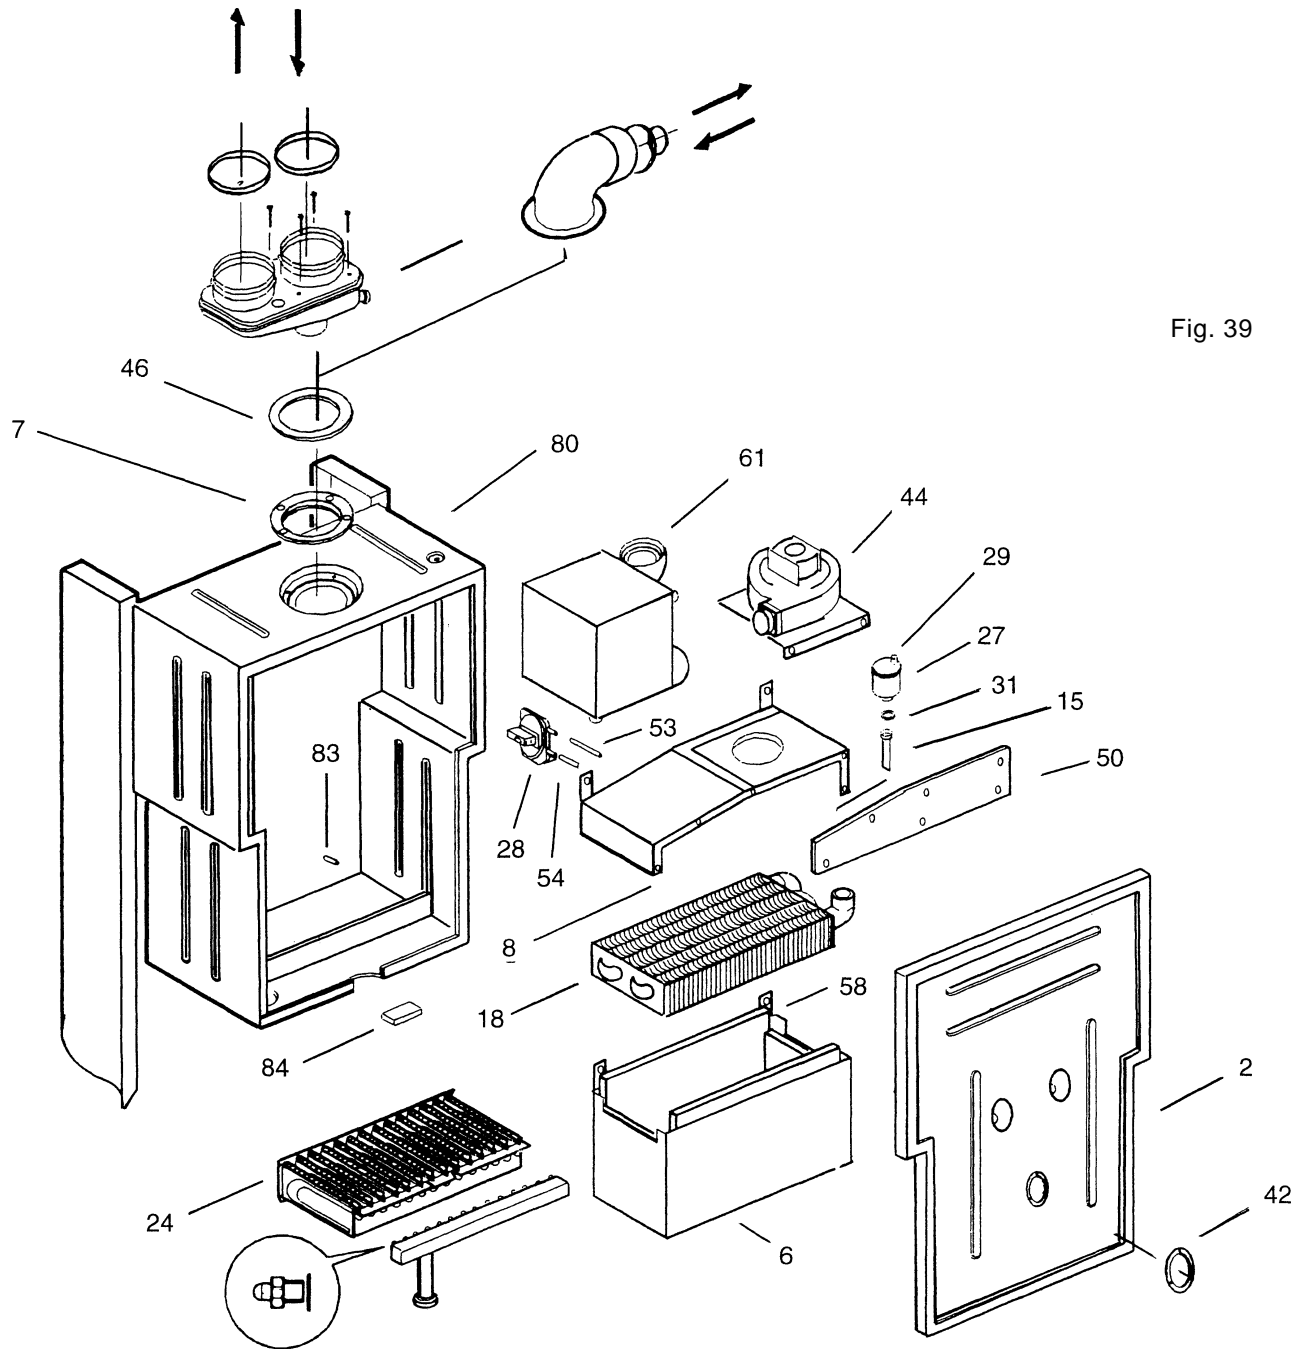

Fig. 39
7.2.4 Examine the combustion chamber insulating material and renew if damaged (fig. 39).